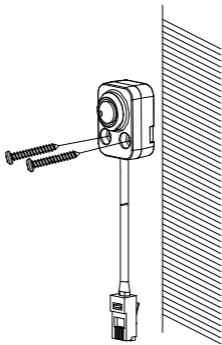

Figure 2-7 Fix the Block-shaped Sensor Unit
1. Fix the Block-shaped sensor unit on the mounting surface with screws, as shown in Figure 2-7.